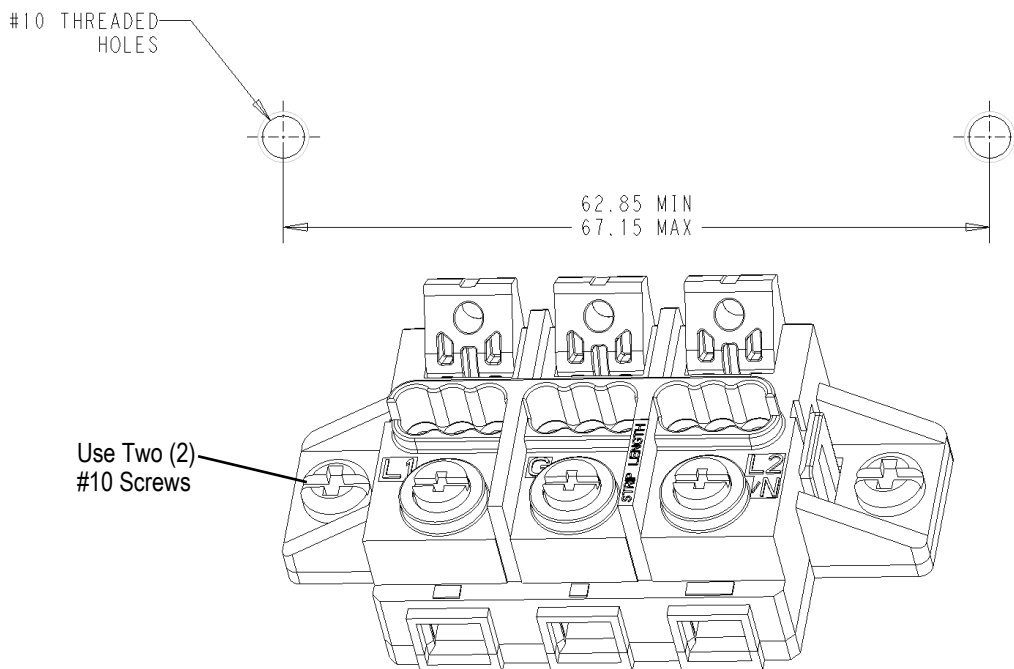

Figure 4
- A. Follow recommended mounting hole pattern as shown in Figure 4.